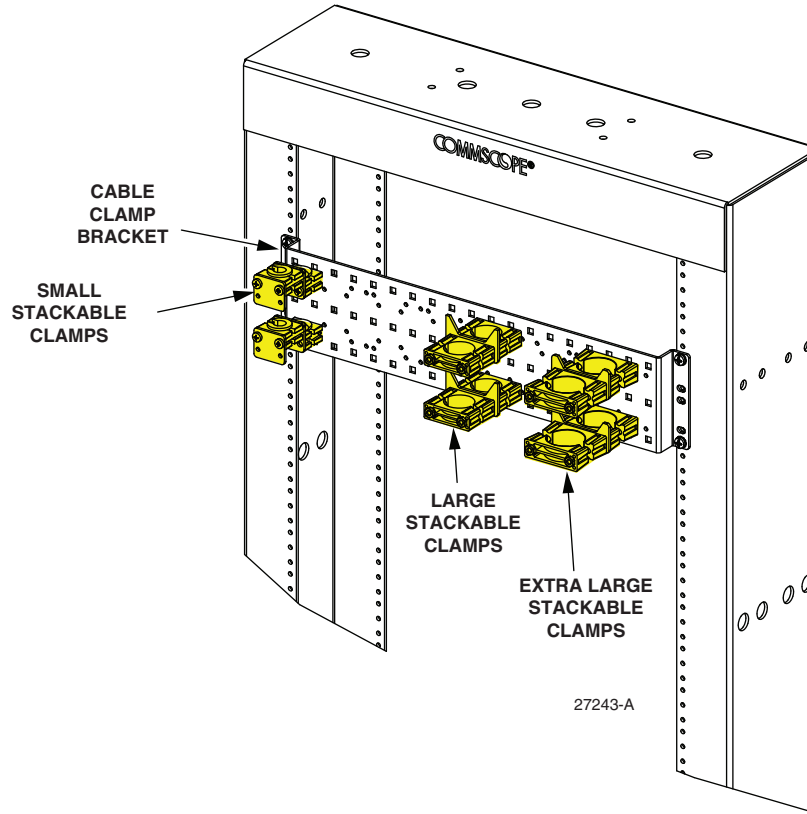

Figure 21. Example of Facility Cable Clamping
1. Mount the cable clamp bracket 6-8 inches above splice cabinet, as shown in Figure 21. For the cable clamp bracket kit catalog number, refer to Table 4.
2. Use appropriately sized cable clamps (refer to Figure 21 and Table 5).
3. Plan for spatial placement of cables being installed referring to Figure 21. The cables that will populate the upper splice trays should be located nearer the center of the bracket. The cables that will populate lower splice trays should be located nearer outer edges of bracket.